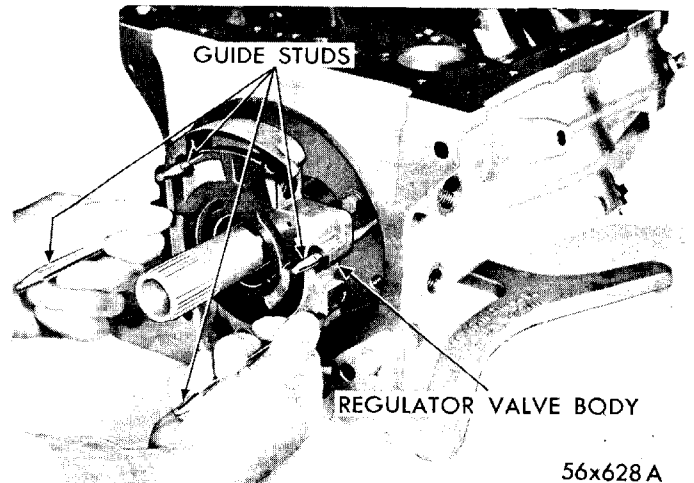

Fig. 55—Removing Regulator Valve Body
(2) Remove the torque converter valve retainer, gasket, spring and valve. A mechanical retriever, such as a piece of welding rod, will aid in removing these valves by inserting it in the end of the valve.
(3) Install guide studs, Tool C-3288; and using the two threaded holes provided in the regulator valve body, install guide studs, Tool C-3283, as shown in Figure 55.